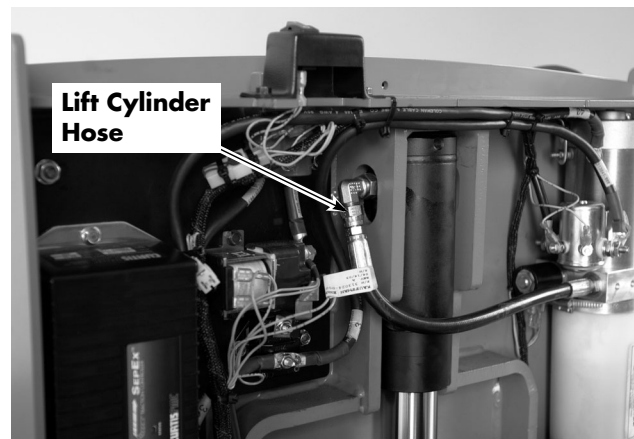

Figure 6-49. Hydraulic Connections
4. Disconnect the lift cylinder hose at the hydraulic cylinder. See Figure 6-49.